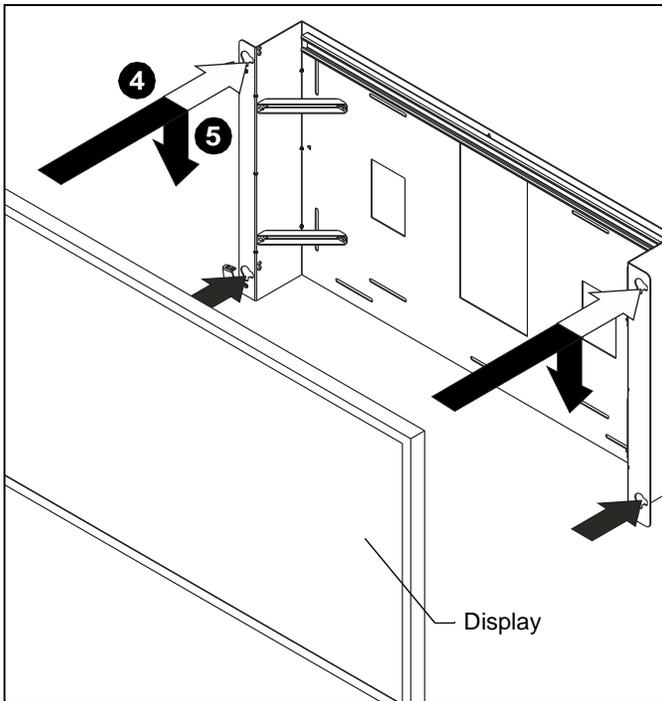

Figure 7
3. Align mounting buttons on display with teardrop mounting holes in mount. (See Figure 7)
4. Move display forward until recessed area of mounting buttons is positioned over lower area of teardrop mounting holes. (See Figure 7)
5. Lower display until recessed area of mounting buttons is seated in lower area of teardrop mounting holes. (See Figure 7)